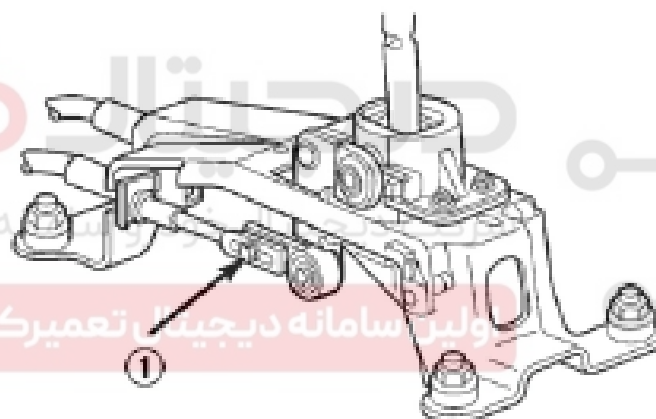

Figure 3-117 Switching adjusting bolt
(4) Unscrew the switching regulating bolt for transmission assembly (Figure 3-117).